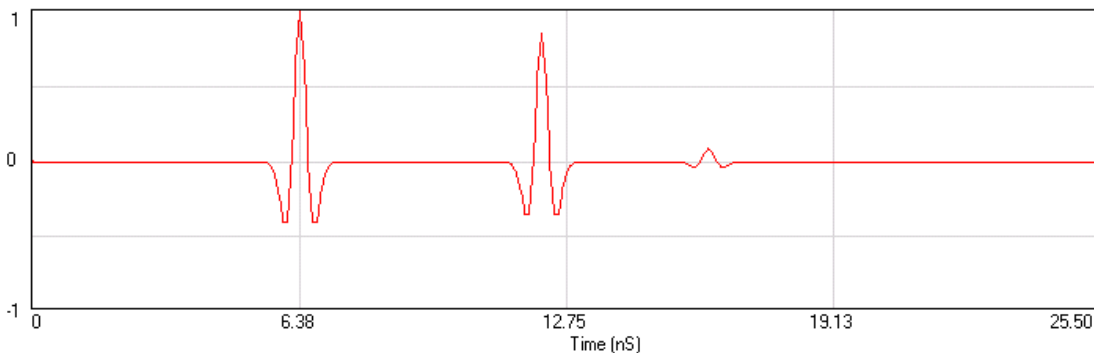

Fig. 3 Simulation of two interfaces with different reflection coefficients
2. From the view menu select 1:4 in order to see better what's going on, and press the simulate button. A picture like figure 3 should appear.